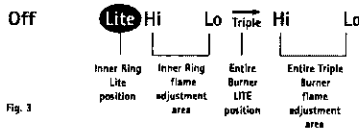

Fig. 3
2. Release the knob and rotate to the LITE position (See Fig. 3). Note: Although all electronic surface igniters will spark at the same time, only the selected surface Burner will lite.
4. Continue to rotate the gas control knob counterclockwise past the first LO setting to the arrow marked TRIPLE (See Fig. 3).
6. When both burners are lit, continue to turn the control knob counterclockwise to adjust to the desired flame size (See Fig. 3)